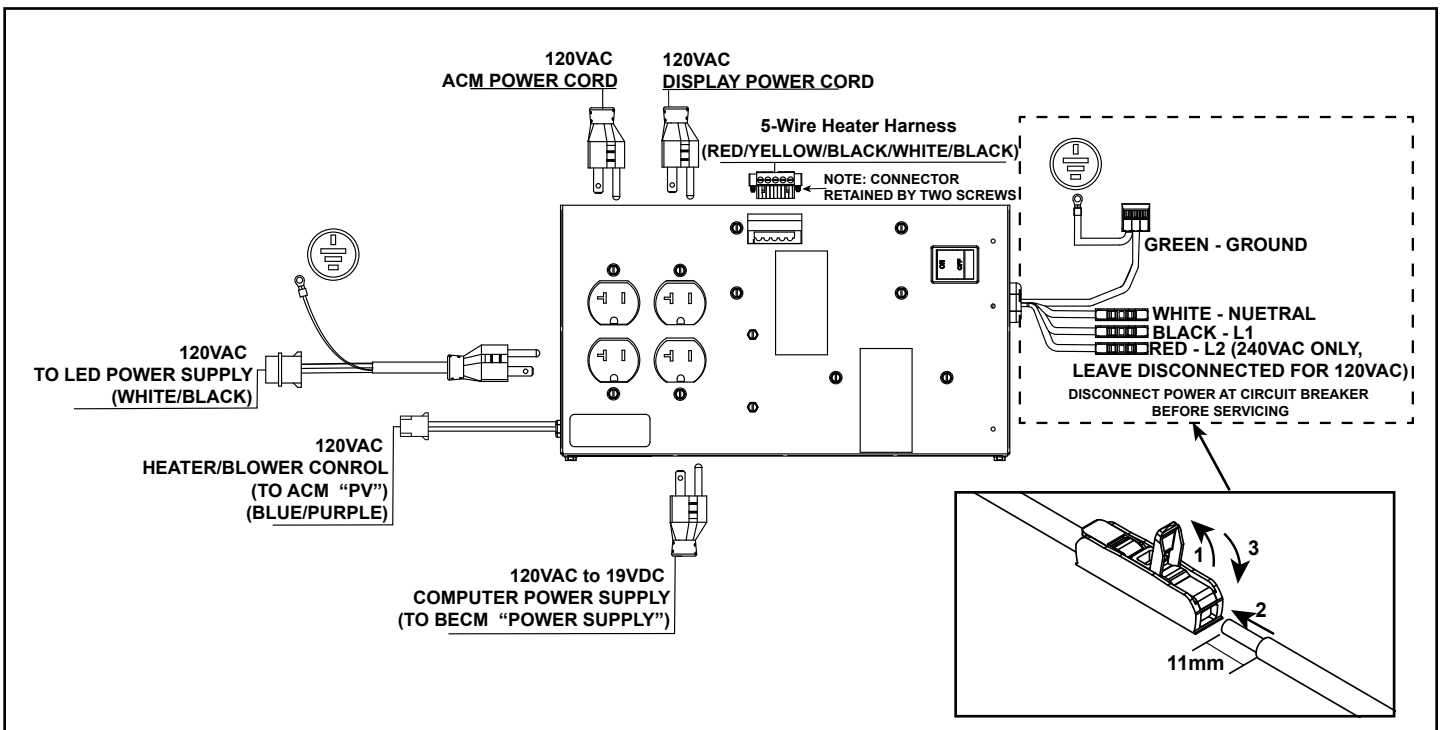

Figure 3.13 Junction Box Wiring
4. Disconnect the AC power input lines from the splice connectors attaching them to the Junction Box. Flip the splice lever up on the splice connector to release the wire. See Figure 3.13.
11. Reconnect all wires and attachment points in reverse order to install the replacement Junction Box Assembly. See Figure 3.13.